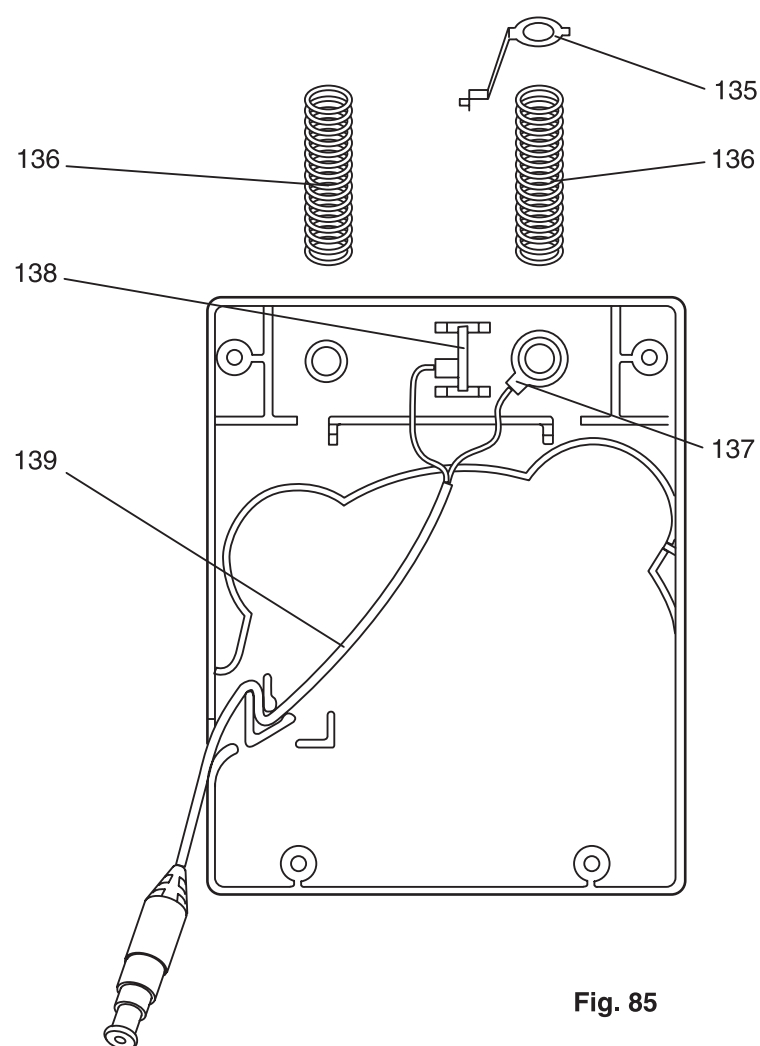

Fig. 85
- Disconnect the right pressure spring 136 (fig. 85).
- Disconnect the right cable 137 with the contact eyelet (fig. 85).
- Push pressure spring 136 onto the same guide pin (fig. 85).
- First press the pedal a little to the right and then downwards in such a way that contact spring 135 is on the right-hand side of resistor track 138 and not bent (fig. 85).